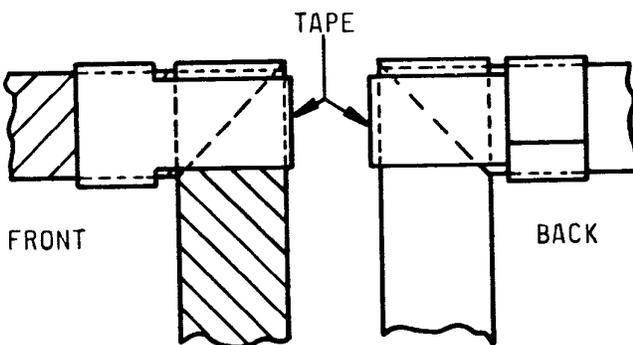

FIG. 6D
- 6.24 TYPE 1, 2, 5 & 6 FOLDS OF FIG. 6D SHALL HAVE SUFFICIENT PRESSURE APPLIED TO SATISFACTORILY SET THE FOLD WHICH CAN BE RETAINED BY USING NO. 900365909 HARDMAN NO. 3672 EPOXY ADHESIVE OR EQUIVALENT, OR A HOT MELT ADHESIVE THAT CAN PROVIDE RETENTION, OR BY TAPING (TEMP-R-TAPE HM352 FROM CONN. HARD RUBBER CO. OR APPROVED EQUIVALENT).